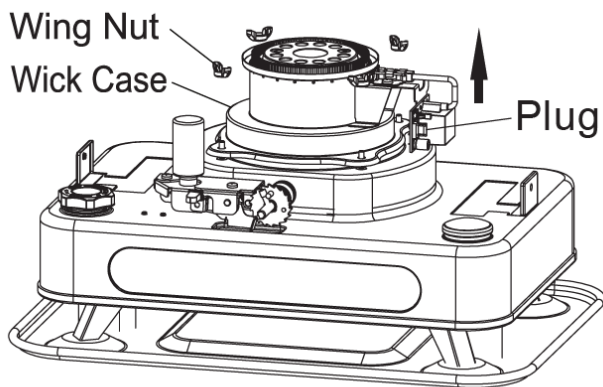

Fig.14
Remove the cabinet base by lifting it from the back and tilting it forward to clear the wick adjuster assembly. Pull out the igniter plug on the circuit board (Fig.14)
3. Pull off the Wick Case by counterclockwise screwing off the four Wing Nuts. (Fig.14)